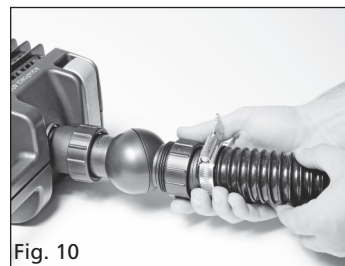

Fig. 10
11. Screw the hosedtail directly onto the outlet boss of the ball joint (Fig 10). The ball joint can be rotated to allow the hose to be directed away from the pump.